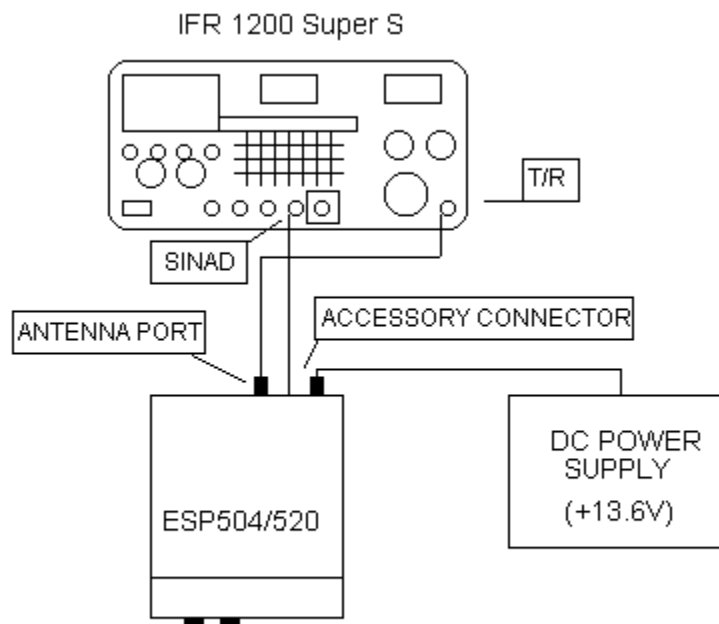

Figure 1 Receiver Test Setup
- a. Configure the test setup per Figure 1, **except do not hookup the audio output of the radio (accessory connector cable or ACC) to the EXT MOD/SINAD port yet.**